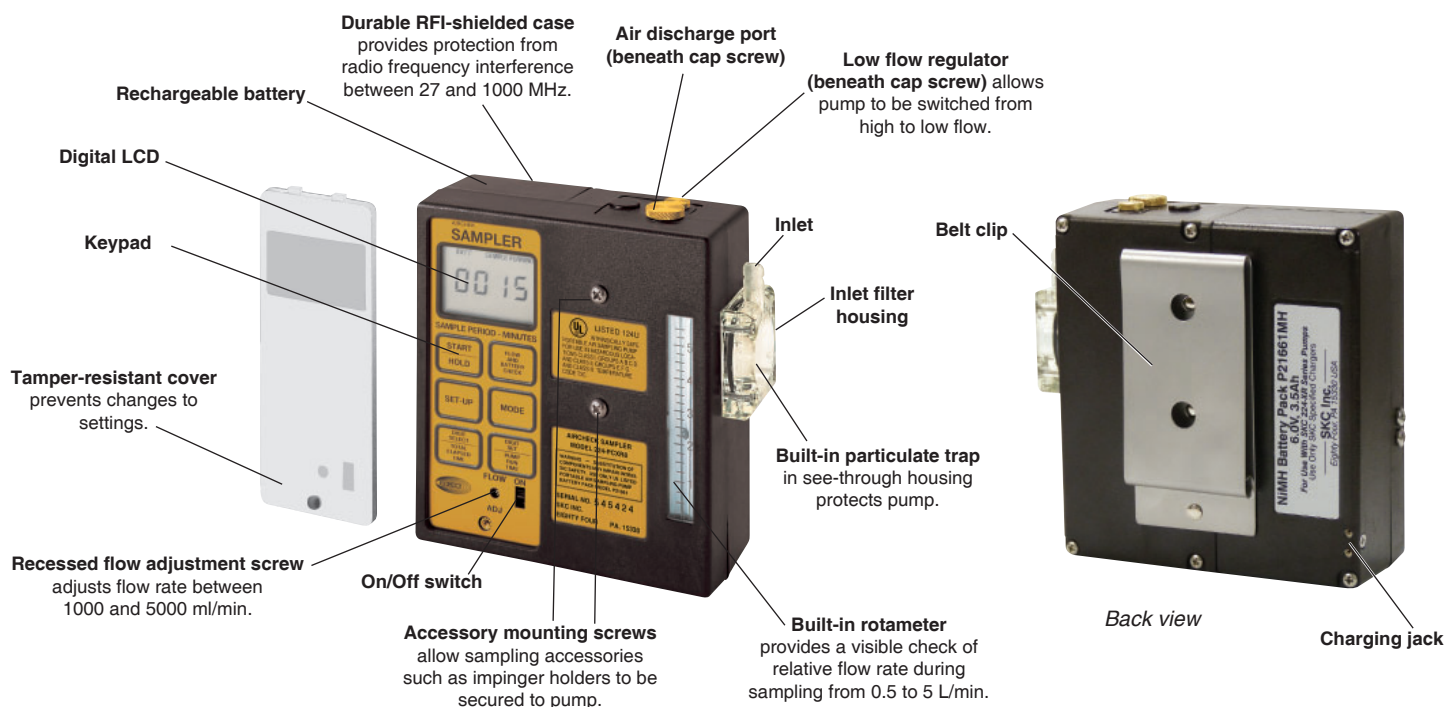

Figure 1. Front and Back Views of PCXR8 Universal Sample Pump
The PCXR8 Universal Sample Pump (Figure 1) is a constant flow (from 5 to 5000 ml/min) air sampler suitable for a broad range of applications. It is ideal for industrial hygiene studies as well as environmental testing.
3. Insert the charging plug end of the cable into the jack on the back of the pump's battery pack (Figure 1).
Turn Pump Power On/Off (Figure 1)
1. To ensure the pump is set for high flow, remove the cap screw (*Figure 1*) covering the regulator valve and turn the exposed screw **clockwise** until it stops. Do not overtighten. *See right.*
7. Press Flow and Battery Check to start the pump. Set the flow rate using the flow adjustment screw (*Figure 1*) until the flowmeter indicates the method-specified flow rate. Take a minimum of three readings and record the average flow rate, as per OSHA/NIOSH instructions.
- b. **When using impingers, an in-line trap (SKC Cat. No. 225-22 or 225-22-01) is required to prevent fumes from accidentally being drawn into the sampler.** Place the in-line trap between the pump and the impinger. Mount the impinger and trap to the face of the sampler using the accessory mounting screws (Figure 1) or place them in a holster at the worker's waist.
- c. **When using the pump for pressure applications such as bag sampling**, thread the exhaust port fitting supplied with the pump into the air discharge port on top of the pump (Figure 1); hand-tighten only. Using PTFE tubing, connect the inlet of the sample medium (e.g., sample bag) to the exhaust port fitting on the pump. Turn on the pump to collect the appropriate volume of air. Shut off the pump and close inlet on sample medium to stop sampling.
3. With the LCD displaying HOLD, start sampling by pressing Start/Hold (Figure 1). If a delayed start has been programmed, DELAYED START will flash on the LCD and the amount of time remaining until sampling starts will count down. SAMPLE RUNNING will be displayed when the delay sequence ends. Record the start time. The elapsed sampling time will be shown on the LCD.